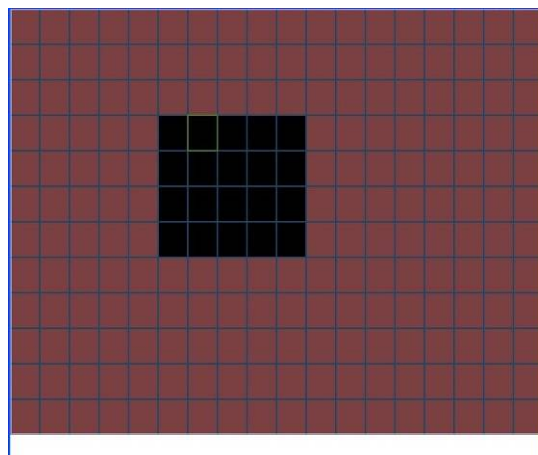

Figure 4-15
- Region: Click select button, the interface is shown as in Figure 4-15. Here you can set motion detection zone. There are 396(PAL)/330(NTSC) small zones.
In Figure 4-15, you can left click mouse and then drag it to set a region for motion detection. Click Fn to switch between deployment and withdraw motion detection. After setting, click enter button to exit.